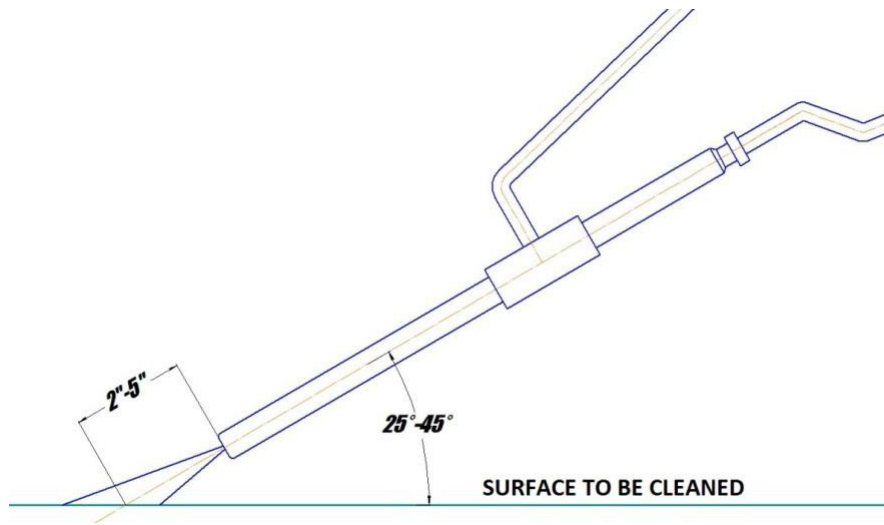

Figure 5.3 – Lance Position for Best Cleaning Results
Once the hydraulic Power Unit is operational and the water jet stream is flowing from the lance, the ROV operator must find the most effective distance between the lance nozzle and the surface being cleaned (See **Figure 5.3**).
2. The most efficient operating technique is to hold the nozzle 2-5 inches (5-12 cm) away from the surface to be cleaned and at a 25-to-45-degree angle to the surface being cleaned (See **Figure 5.3**). The ROV operator needs to observe the shape of the cavitating jet cone. At greater depths, the higher ambient pressure will cause the jet cone to be shorter. The widest zone of the cone is the most efficient part of the cavitating jet. Placing the nozzle closer than 2 inches (5 cm) from the surface being cleaned will not allow for efficient cavitation performance and will degrade the cleaning capability of the CaviBlaster system.